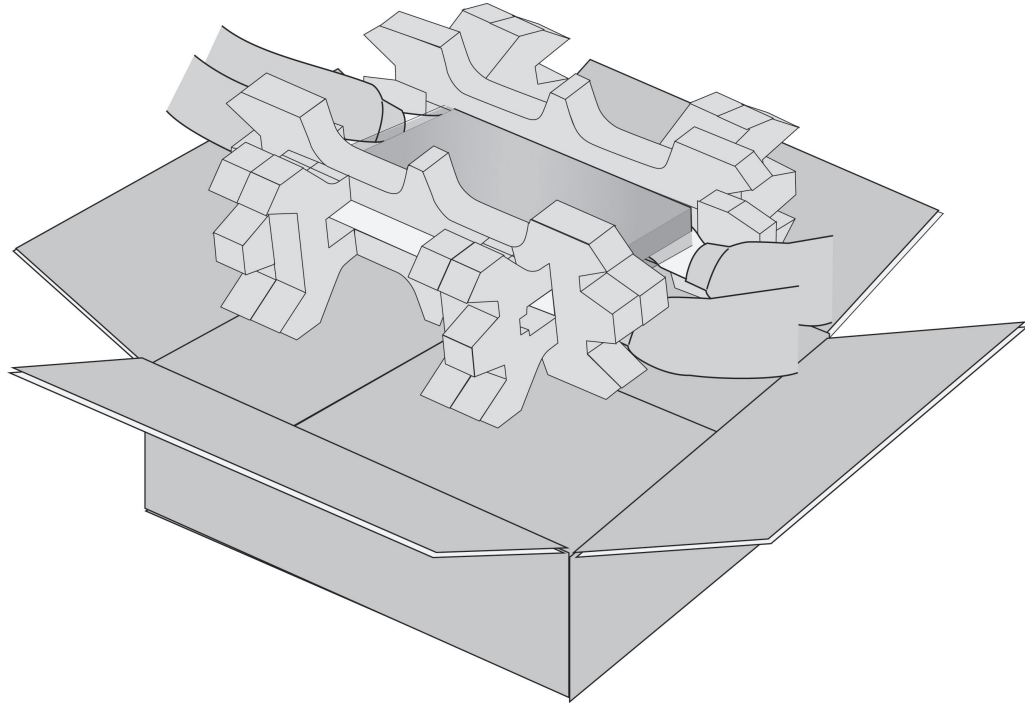

Figure 31. Lifting the Switch from the Shipping Box
3. Lift the switch from the shipping box and place it on a level, secure table. Refer to Figure 31 on page 77.